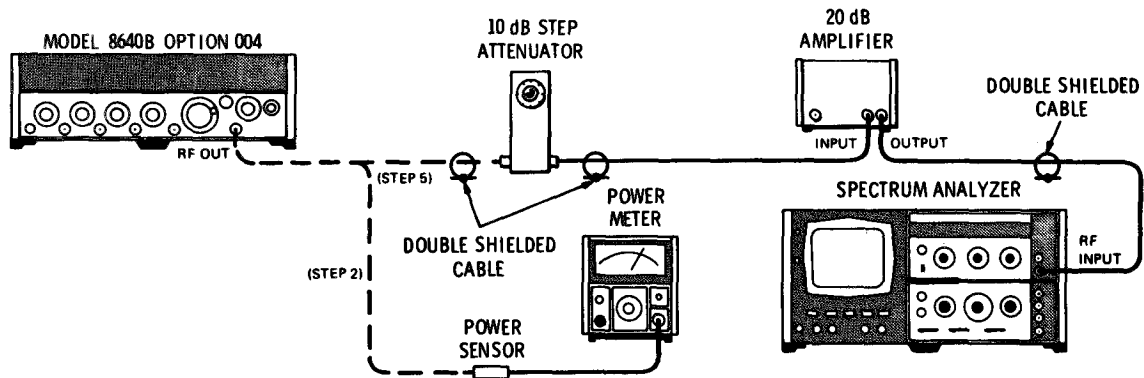

Figure 5-2. Output Level Vernier and Meter Adjustment Test Setup
1. Connect equipment as shown in Figure 5-2 after setting Signal Generator's controls as follows: